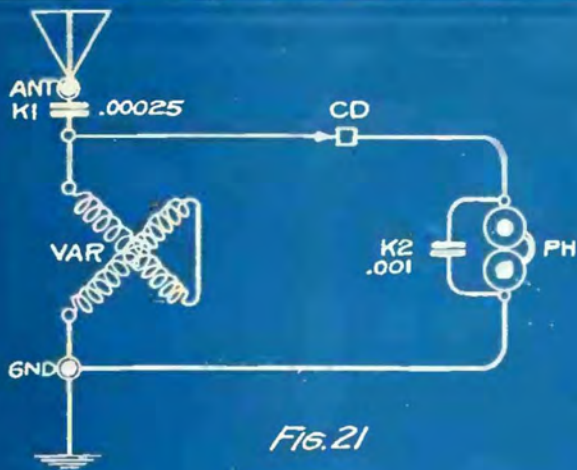
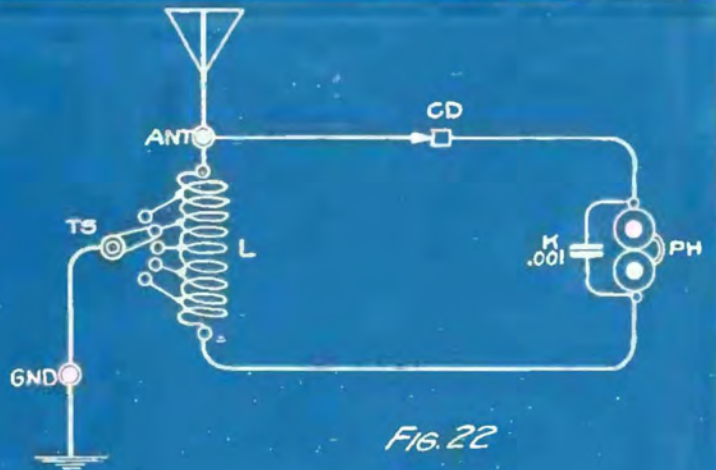

Fig. 21
Fig. 22
A simple crystal detector set, tuned by the variometer (VAR) is shown in Fig. 21. Here we have the symbols for the variometer, crystal, aerial, ground, phones and two fixed condensers. Note that when two condensers are shown that they are numbered as at (K1) and (K2). In Fig 22 we have another single circuit crystal set tuned by a simple tapped inductance (L), the tap switch